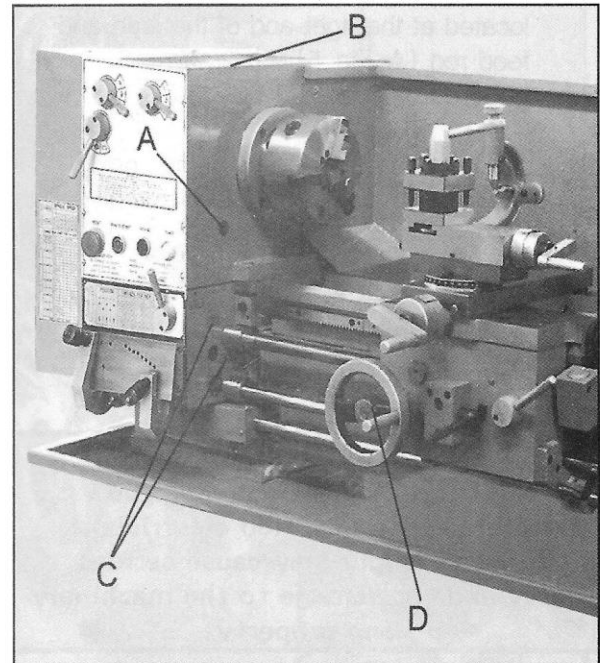
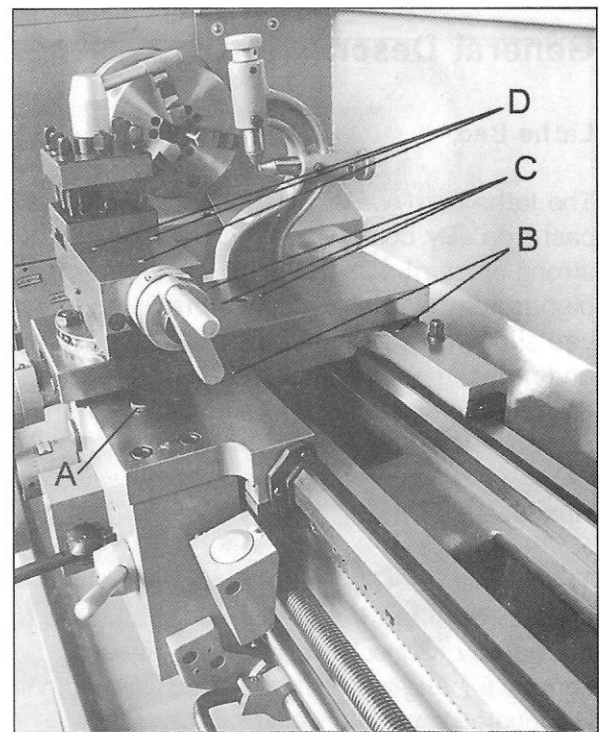

Fig.3
Fig.4
1. **Headstock** – Oil must be up to indicator mark in oil sight glass(A, Fig.3). Top off with Shell Turbo T – 68 or equivalent. Fill by pulling plug(B, Fig.3). To drain, remove drain plug with 8 mm hex wrench. Drain oil completely and refill after the first three months of operation. Then, Change oil in the headstock annually.
3. **Gearbox** – Lubricate two oil ports(C, Fig.3)with Shell Turbo T – 68 or equivalent daily.
4. **Apron** – Remove oil cap(A, Fig.4) on top of apron to fill. To drain,remove drain plug on bottom of apron. Drain oil completely and refill with Shell Turbo.T68 or equivalent after the first three months of operation. Then, change oil annually. Lubricate one oil port(D, Fig.3)on the apron hand wheel once daily with 20W machine oil.
5. **Cross Slide** – Lubricate three oil ports (C, Fig.4) with 20W machine oil once daily.
6. **Compound Rest** – Lubricate three oil ports(D, Fig.4)with 20W machine oil once daily.
7. **Carriage** – Lubricate two oil ports(B, Fig.4)with 20W machine oil once daily.